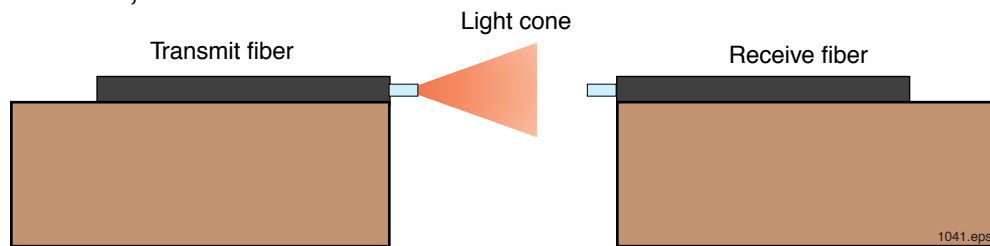
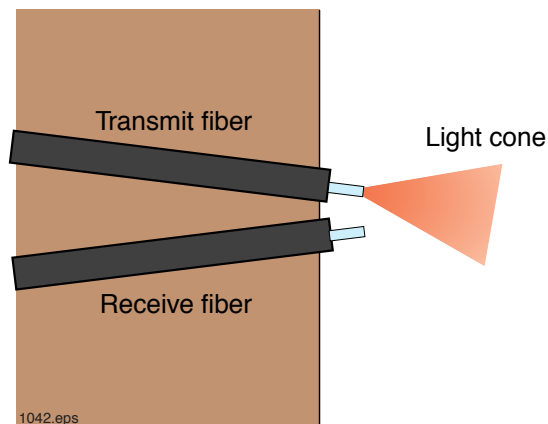

Figure 17. Side view of the Transmit optical fiber and Receive fiber pointed at each other for use in an active optical sensor.
Figure 18. Top view of the Transmit and Receive fibers arranged in a reflective sensing configuration.
6. Tape the free end of each optical fiber to the tops of two books of about the same thickness. Point the tips of the fibers at each another as shown in Figure 17, about 6 mm (.25 inches) apart.
16. Rearrange the optical fibers side by side on a single book, angled slightly toward each other, as shown in Figure 18.
20. How is this sensor configuration in Figure 17 different than the one in Figure 18? Is it the opposite—that is, does the volume increase when objects are present?